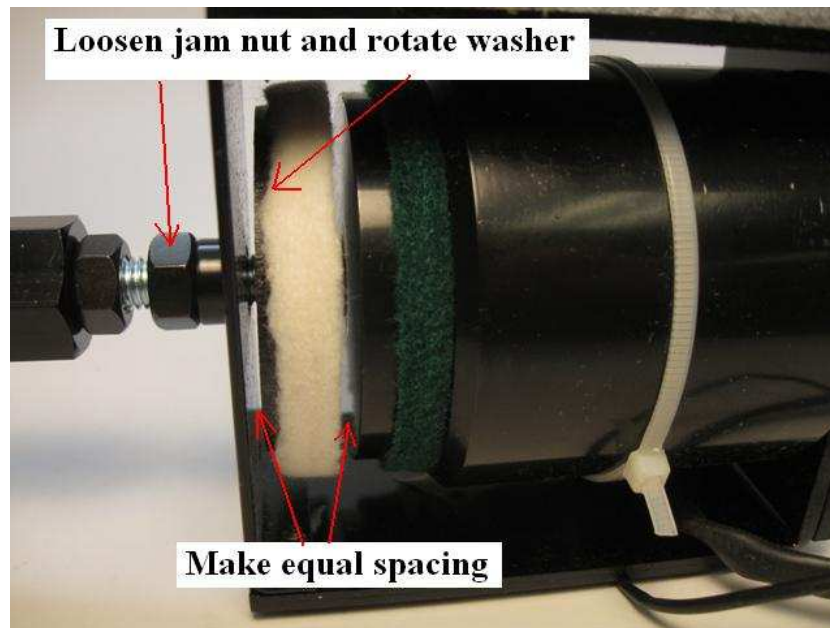

Figure 30
- Adjust the washer/white felt by rotating it until there is an even spacing. (See figure 30) This gap is the amount of travel for the solenoid. It will be very close to the amount of lift necessary.